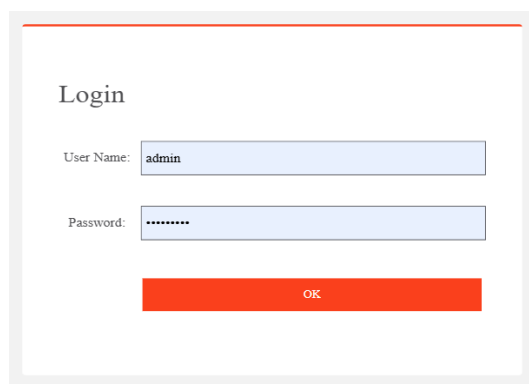

Figure 5-8: Chrome login interface
- Step 3: When connecting to the camera for the first time, enter the default user name: admin and password: planck123 and click "OK" (Figure 5-8).